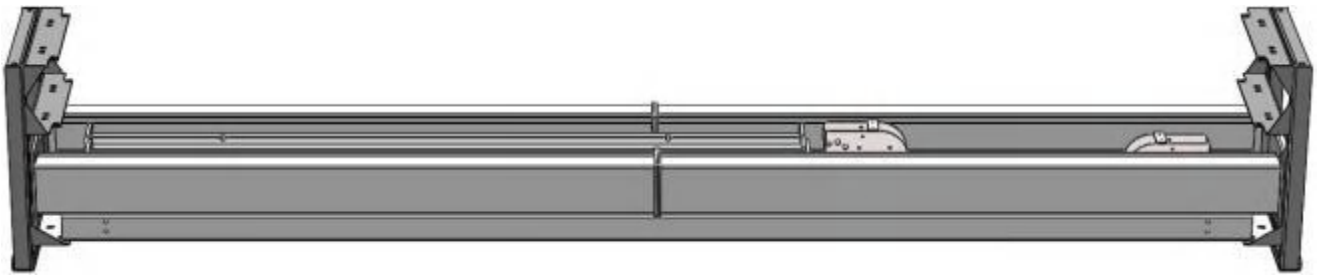

Fig. 11
4. Take out the parts in the offside platform, loosen the middle bolts of the package bracket, take out the offside platform/power side platform. **(See Fig. 11)**